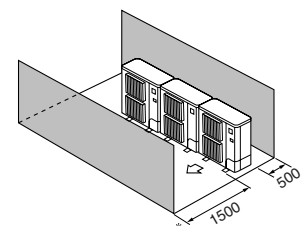

Fig. 2-11
④ Obstacles at front and rear only (Fig. 2-11)